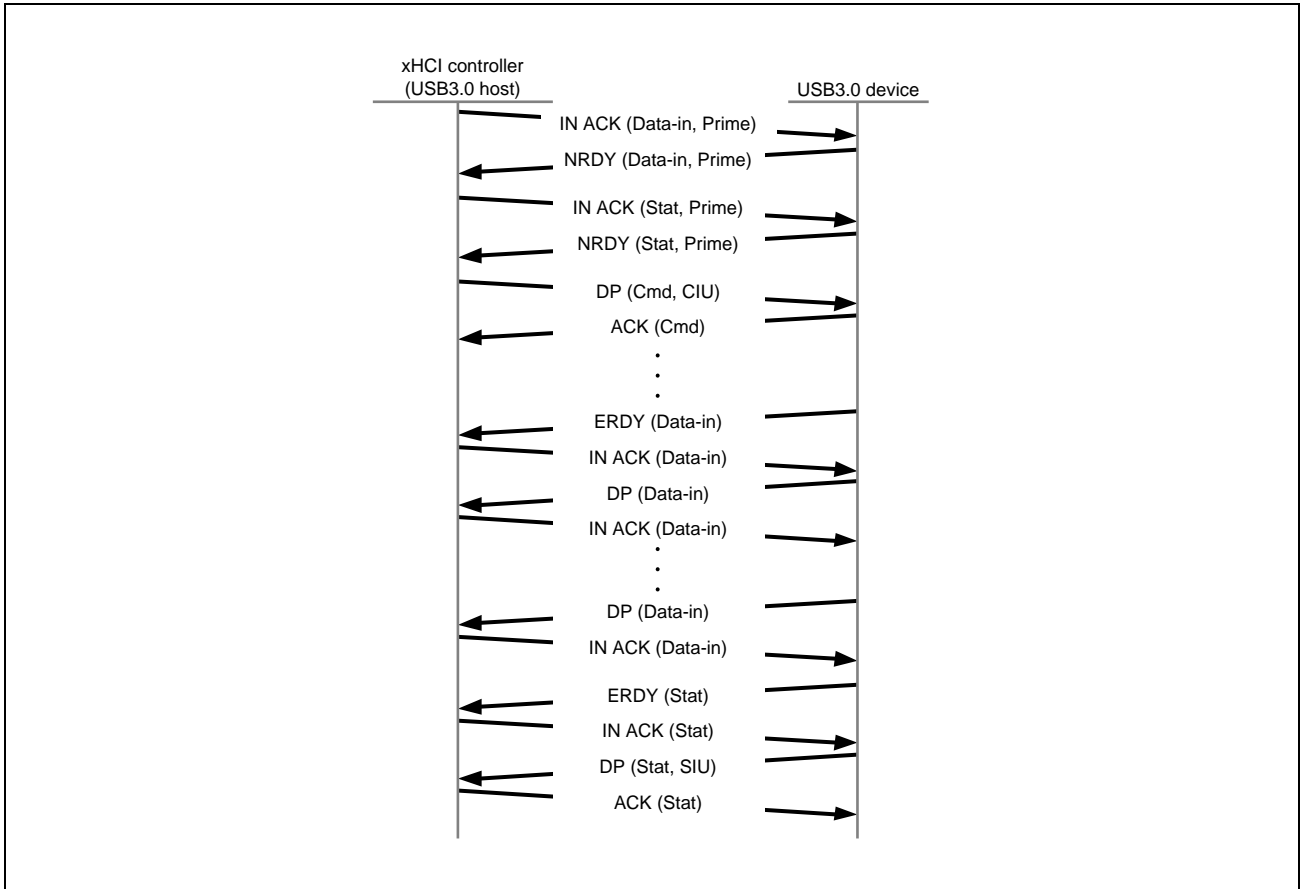

Figure 26.6-35 Example SuperSpeed UASP Data-IN Transfer
**Figure 26.6-35** shows the part between USB3.1 host and USB3.1 device of Figure 7 in UASP specification Rev.1.0.